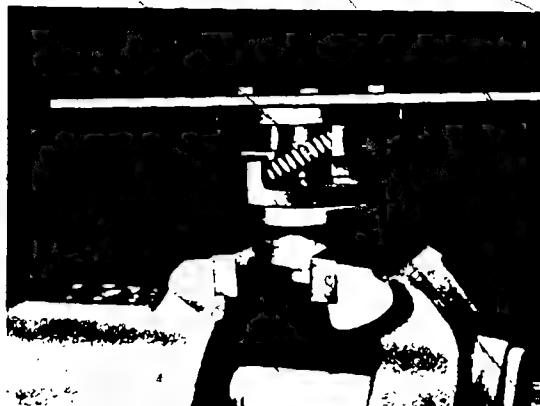

Fig. 15 Inserting the springs
5. Now insert springs so that they fit perfectly in the locating bores of pivot and driving pins (Fig. 15). To do this, keep flyweights in outward position, i.e., in contact with outer ring.